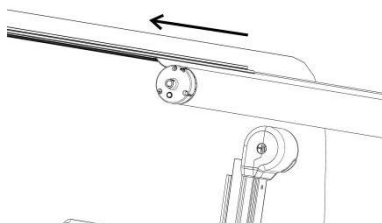

Figure C19
3.6 Loosen a section of fabric on the awning roller tube and thread it into the vehicle's the fabric rail (Figure C19)